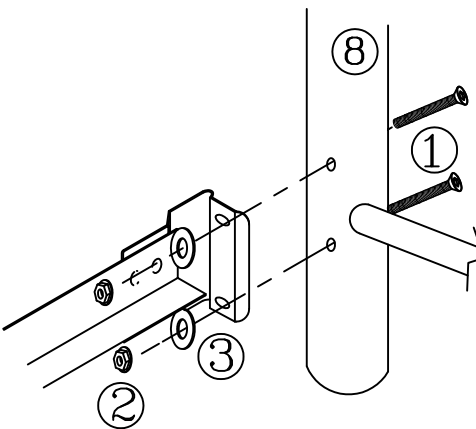

FIGURE 3
- Place a flat washer (3) first, and a nut (2) on each screw. Hand-tighten, DO NOT TIGHTEN screws all the way.
- Tighten all screws securely using the Allen wrench (4).
- Position footboard panel (8) and align holes in the post with holes in the frame bracket. (See figure 3)
- Place 2 screws (1) through holes located in footboard (8) post.